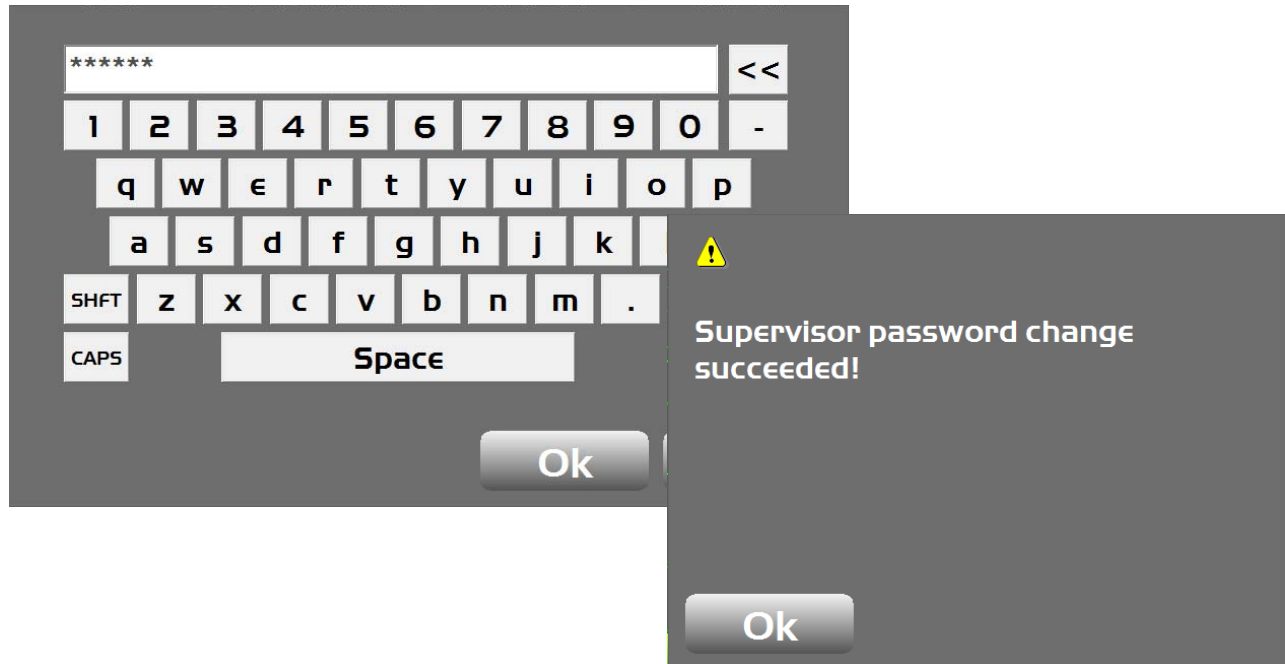

Figure 90: Enter a New Password
3. Enter the new password twice, and tap **OK**. A confirmation screen appears (Figure 90).